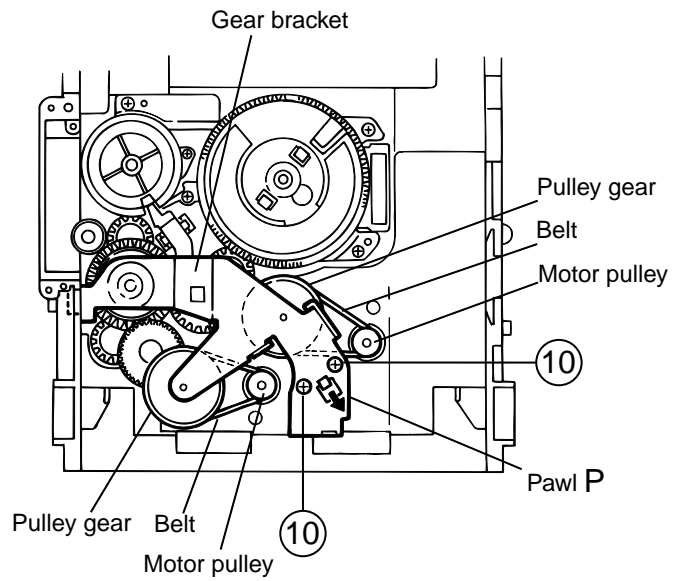

Fig.19
(See Fig.19~22)**
1. Remove the two screws 10 retaining the gear bracket (See Fig.19).
2. While pressing the pawl "P" fixing the gear bracket in the arrow direction, remove the gear bracket (See Fig.19).
4. Remove the belts respectively from the right and left actuator motor pulleys and pulley gears (See Fig. 19).